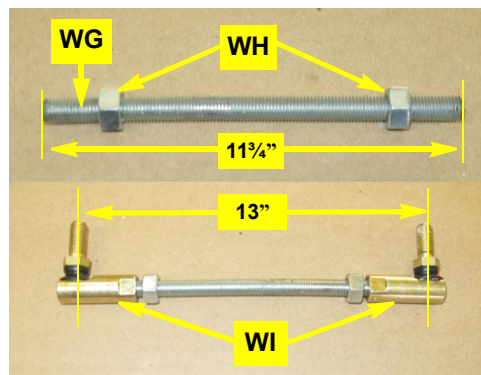

Figure 1d (not to scale): Cut rod (top) and assembled link rod (bottom)
- d. Cut threaded rod **WG** to 11³/₄" (Figure 1d - top) then screw the swivel rod ends **WI** onto the cut rod to achieve a center-to-center stud measurement of 13" (Figure 1d - bottom). Leave **WH** loose until you complete linkage adjustment at step 2.